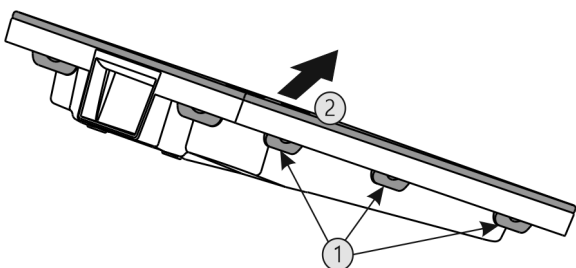

Fig. 56
- Press all lugs Fig. 56 (1) one after another and remove the cover Fig. 56 (2).